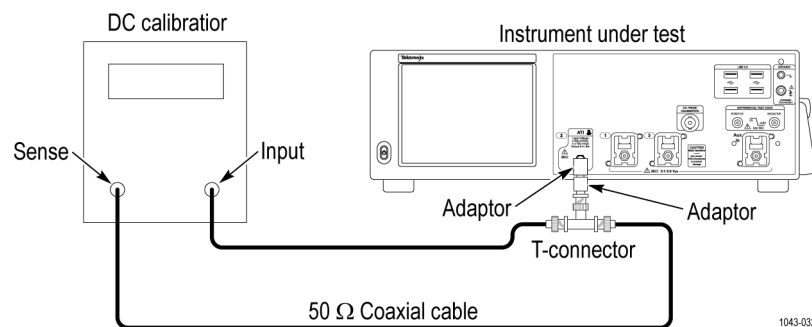

Figure 6: DC voltage accuracy test hookup
- Connect the output of a DC calibration generator. (See Figure 6: DC voltage accuracy test hookup on page 80.)